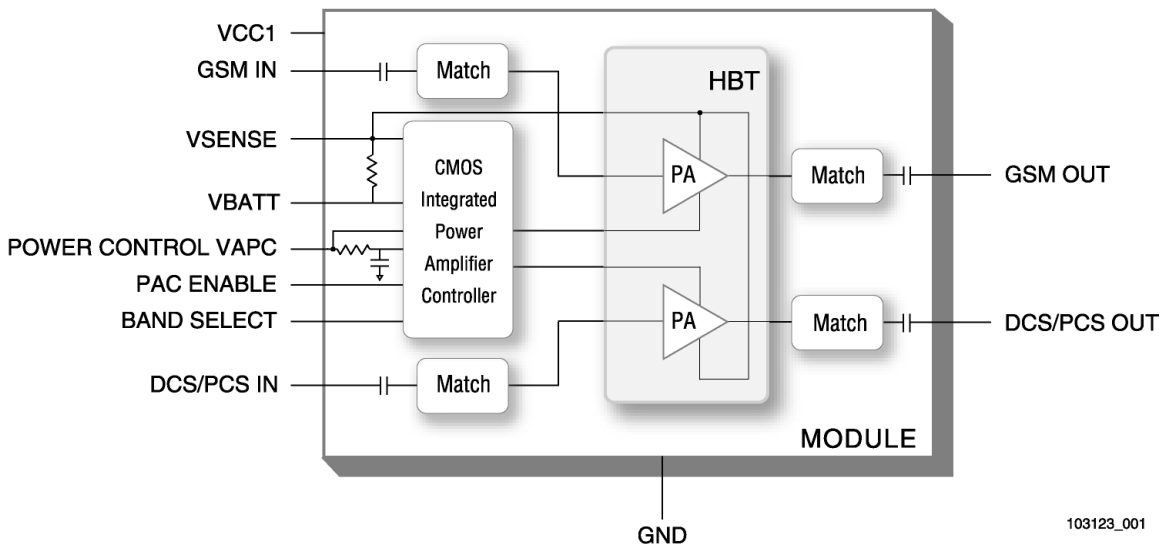

Figure 1. Functional Block Diagram
RF input and output ports of the SKY77324 are internally matched to a 50 Ω load to reduce the number of external components for a quad-band design. Extremely low leakage current (2.5 μA, typical) of the dual PA module maximizes handset standby time. The SKY77324 also contains band-select switching circuitry to select GSM (logic 0) or DCS/PCS (logic 1) as determined from the Band Select (BS) signal. In Figure 1, below, the BS pin selects the PA output (DCS/PCS OUT or GSM850/900 OUT) and the Analog Power Control (VAPC) controls the level of output power.